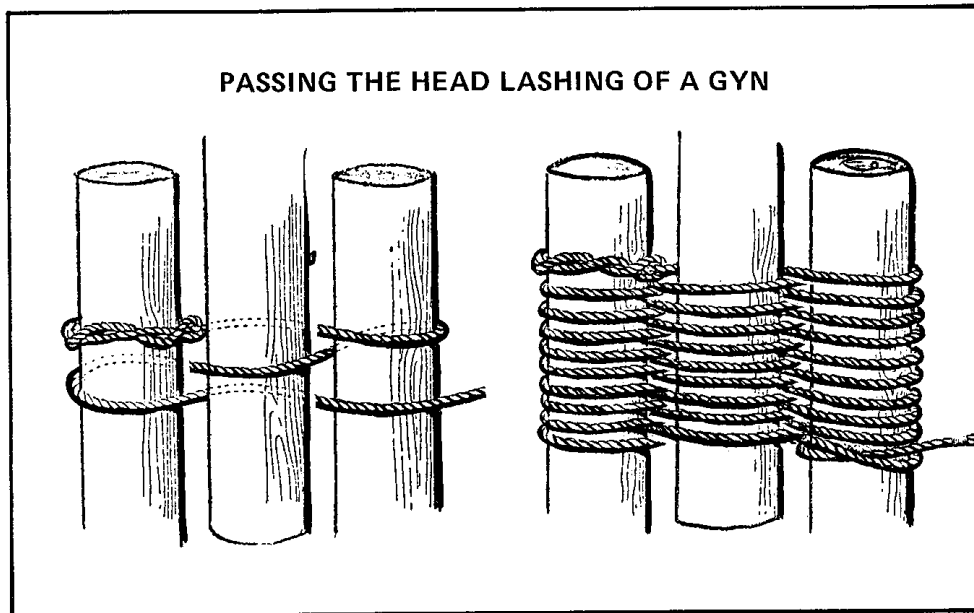

Figure 4-77 Passing the Head Lashing of a Gyn
43. **To Rig an Extempore Gyn** — (See Figures 4-77 and 4-78.) The position for the heading lashing is first marked on all three spars which are to be used for the legs. These legs are then laid parallel with each other, an inch or two apart and **with the heel of the centre leg pointing in the opposite direction to those of the other two**. The marks must be in line and the heads of the legs should be supported clear of the deck.
44. **Lashing** — **The lashing** is then put on at the marks. It is begun with a **timber hitch round one leg**, then from six to eight figure-of-eight turns are taken, as shown in Figure 4-77, and the lashing is completed with a **clove hitch round one leg**. The lashing **must be applied loosely**; it cannot slip down once the gyn is erected, and if it is too taut great difficulty will be experienced in raising the gyn; it is usual, however, to place a rope collar round the odd leg below the lashing to prevent it slipping down during the process of raising.